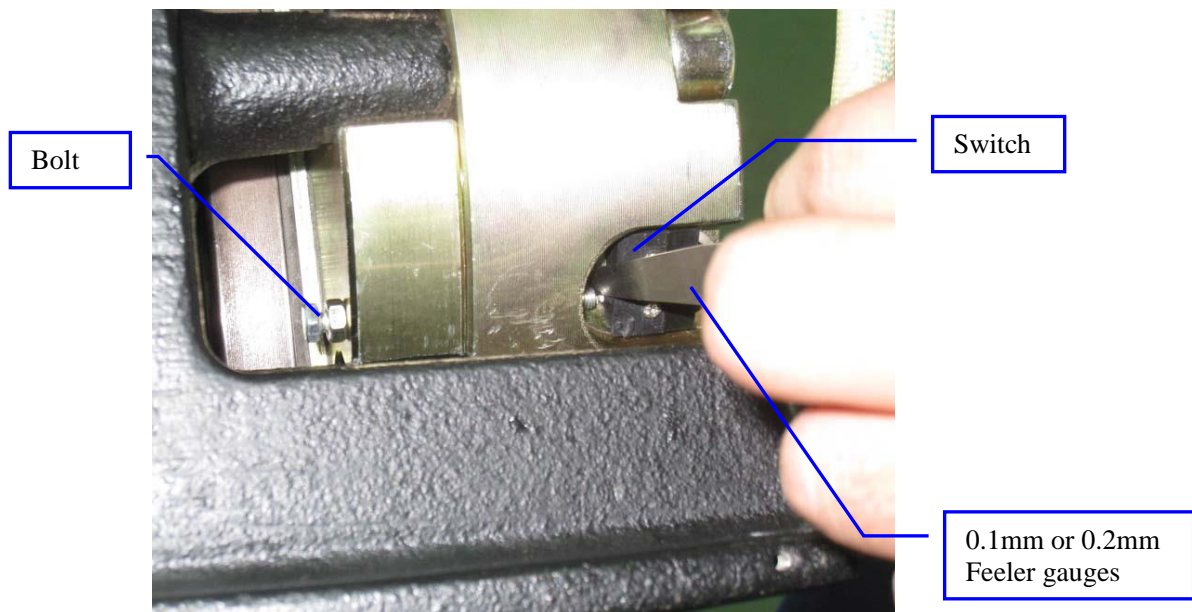

Figure 47: Use feeler gauges to check brake switch operation
6. Use multimeter to make sure the new switch is functional by inserting feeler gauges between the bolt M4x50 and the switch. The switch should not activate when inserting 0.1mm (0.004") feeler gauge and should activate when inserting 0.2mm (0.008") feeler gauge. See Figure 47.